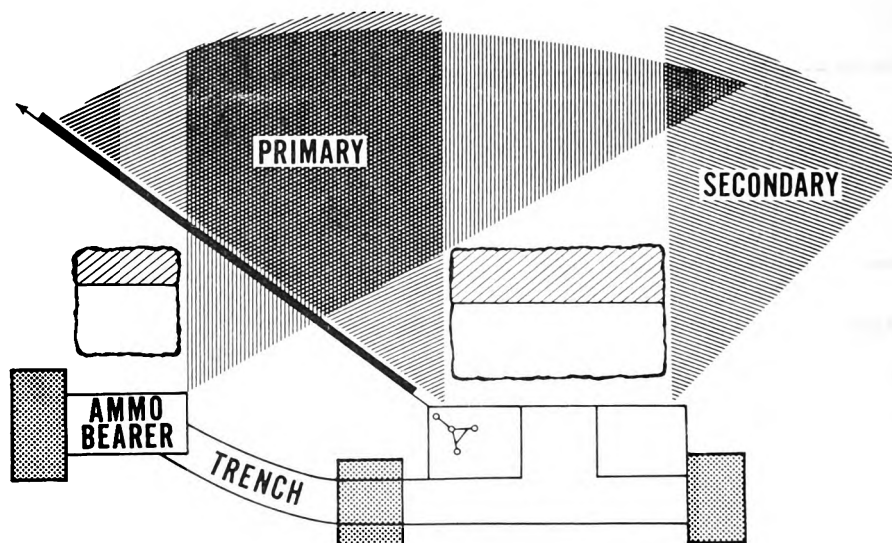

Figure 1.
4. **Size and Shape.** The position must be armpit deep, be wide enough to allow two personnel with LBE to move freely, and have two distinct firing platforms whenever possible (figure 1).